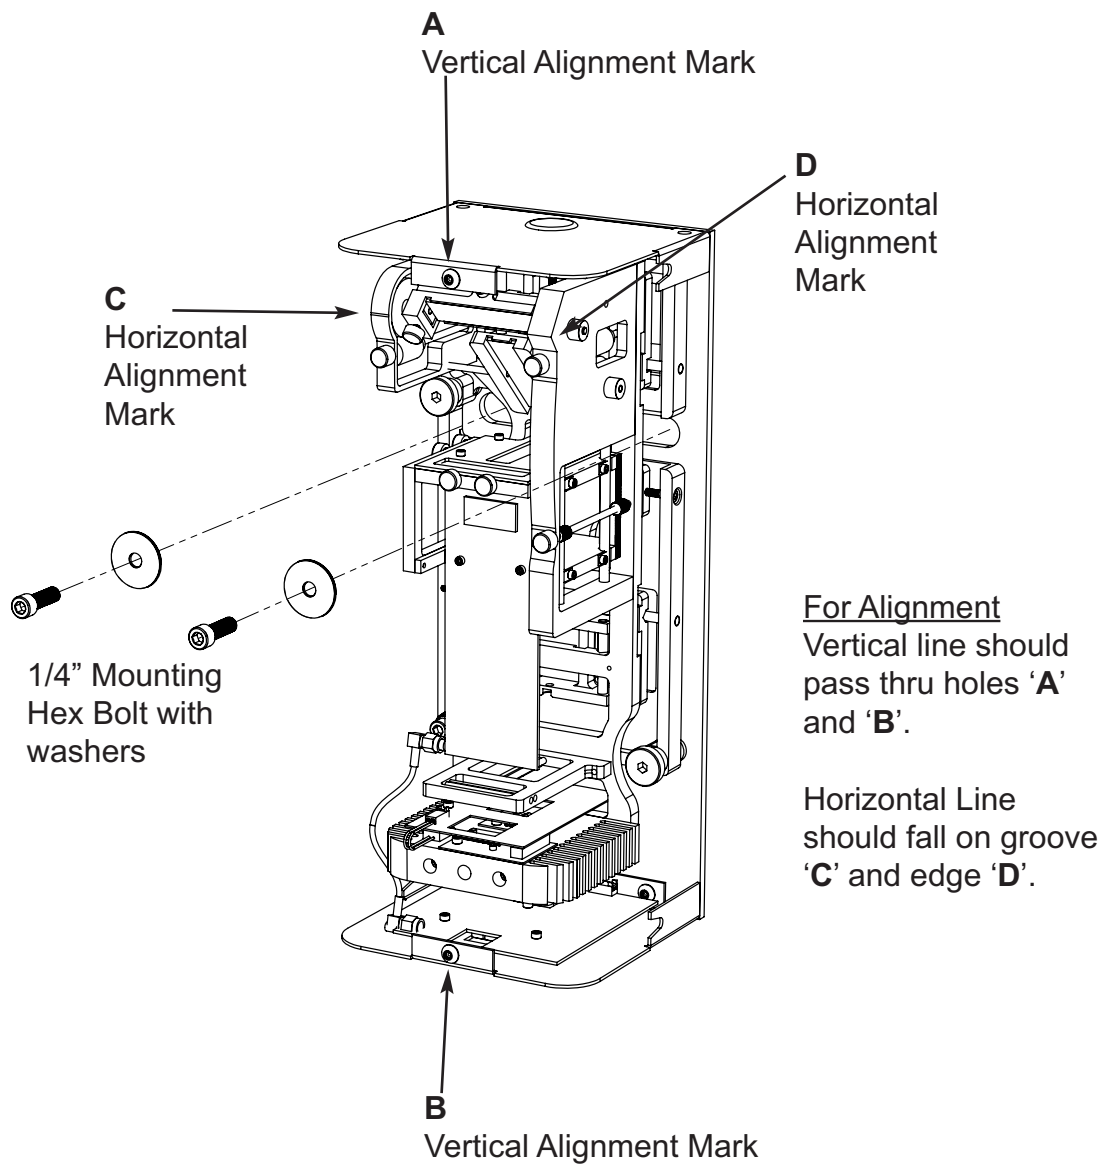

Figure 5
12. Use the two 1/4" hex bolts and washers to mount the optical aligner to the wall shown in Figure 5. The optical aligner must be firmly mounted. Oversized holes provide flexibility to line up the exit reference hole. Suitable anchors must be used. Wall anchors for masonry are provided in the mounting kit.
18. Verify that the vertical line of the projected collimator crosshair passes through the screw holes in the top and the bottom cover of the optical aligner. See Figure 5 on page 15.
19. Verify that the horizontal line of the projected collimator crosshair falls on the horizontal alignment marks of the optical aligner. See Figure 5 on page 15.
9. Use the two 1/4" hex mounting bolts and washers to mount the optical aligner to the wall as shown in Figure 5. The unit must be firmly mounted. Oversized holes in the aligner back mounting plate provide flexibility to line up the exit reference hole. Suitable anchors must be used. Wall anchors for masonry are provided in the mounting kit.
8. Use the two 1/4" allen bolts and washers to mount the optical alignment system to the wall as shown in Figure 5. The unit must be firmly mounted. Oversized holes in the aligner back mounting plate provide flexibility to line up the exit reference hole. Suitable anchors must be used. Wall anchors for masonry are provided in the mounting kit.